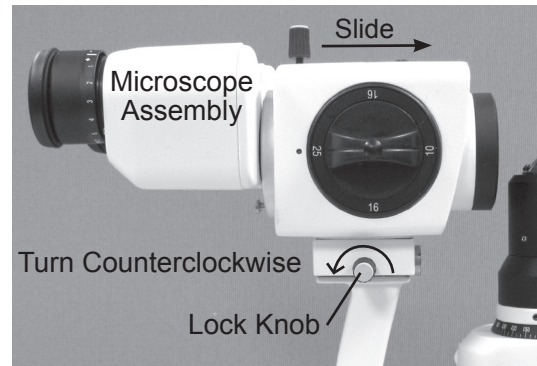

Figure SU-11 Microscope Install
15. Install the Microscope Assembly onto the top of the Arm by sliding it into position, making sure it is up against the stop. Then, tighten the Lock Knob located on the right side of the Microscope Assembly. Refer to Figure SU-11.